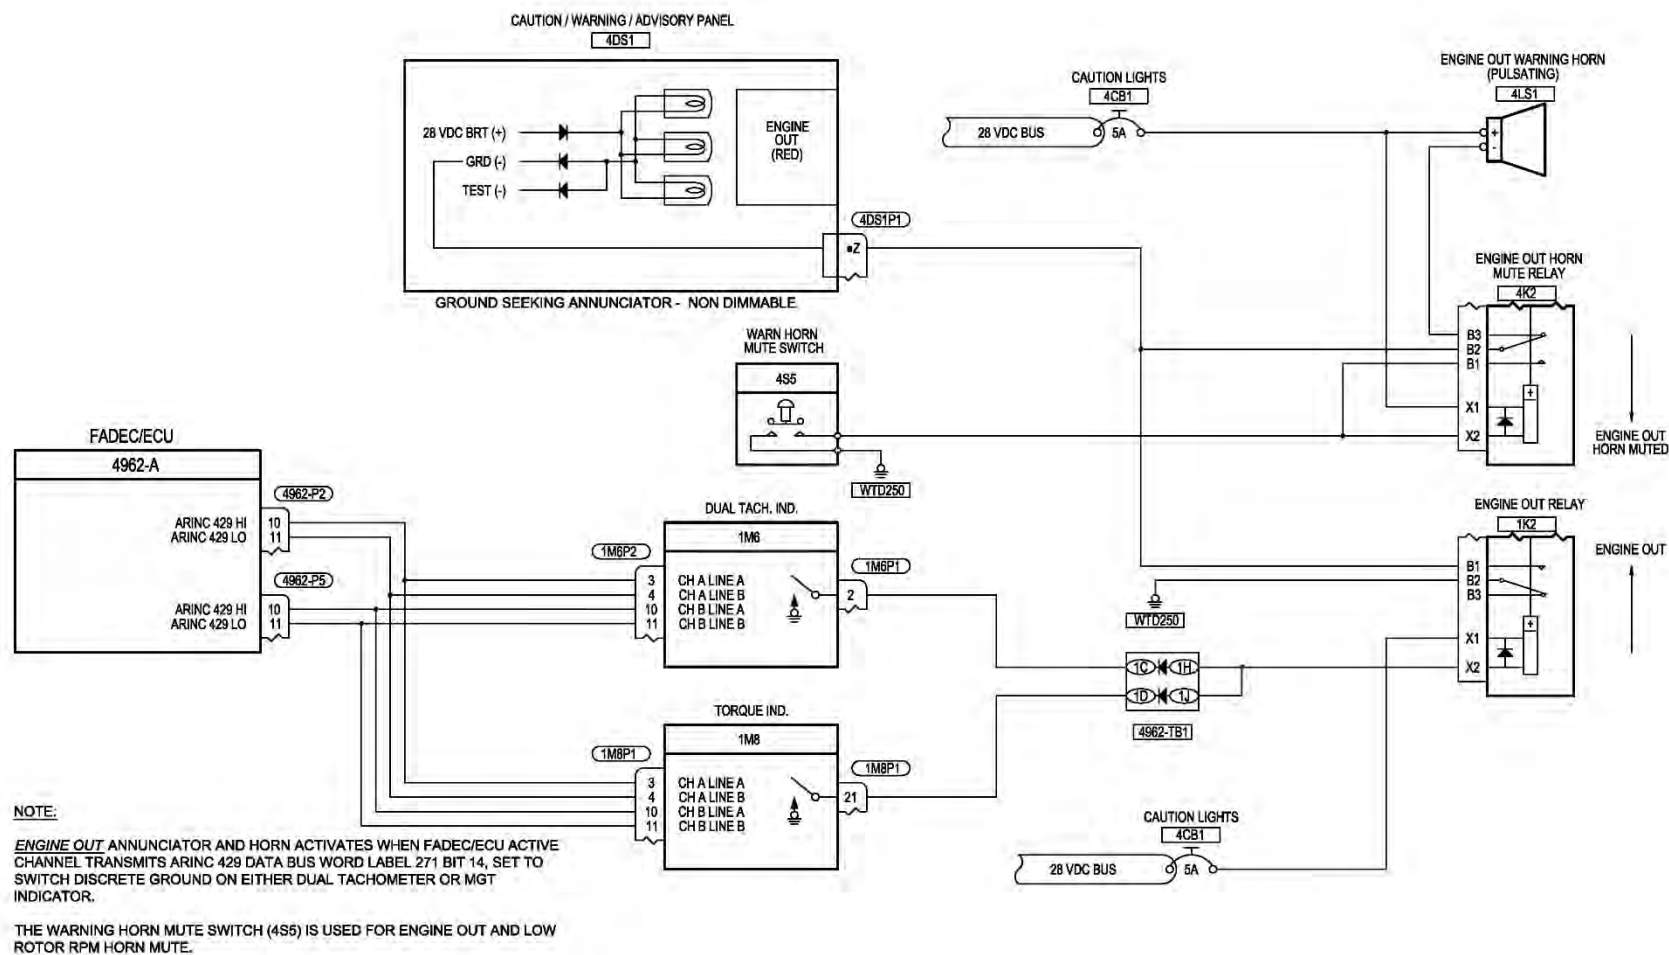

Figure 96-82: ENGINE OUT Annunciator and Warning Horn Circuit – Simplified Schematic
The ENGINE OUT annunciator and warning horn circuit is designed to notify the pilot that the engine has had a flameout or the gas generator (NG) speed is below $55 \pm 3\%$. Refer to the ENGINE OUT annunciator and warning horn circuit (Figure 96-82).